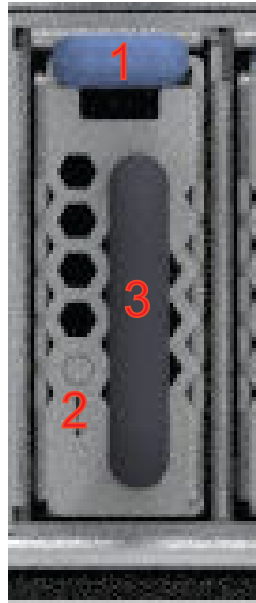

Figure 57. Removing the boot drive
7. Hold the boot drive handle (3) and press down on the release latch (1) towards the handle and pull to remove the boot drive. In Figure 57 on page 98, the faulty LED (2) location on the boot drive is shown.